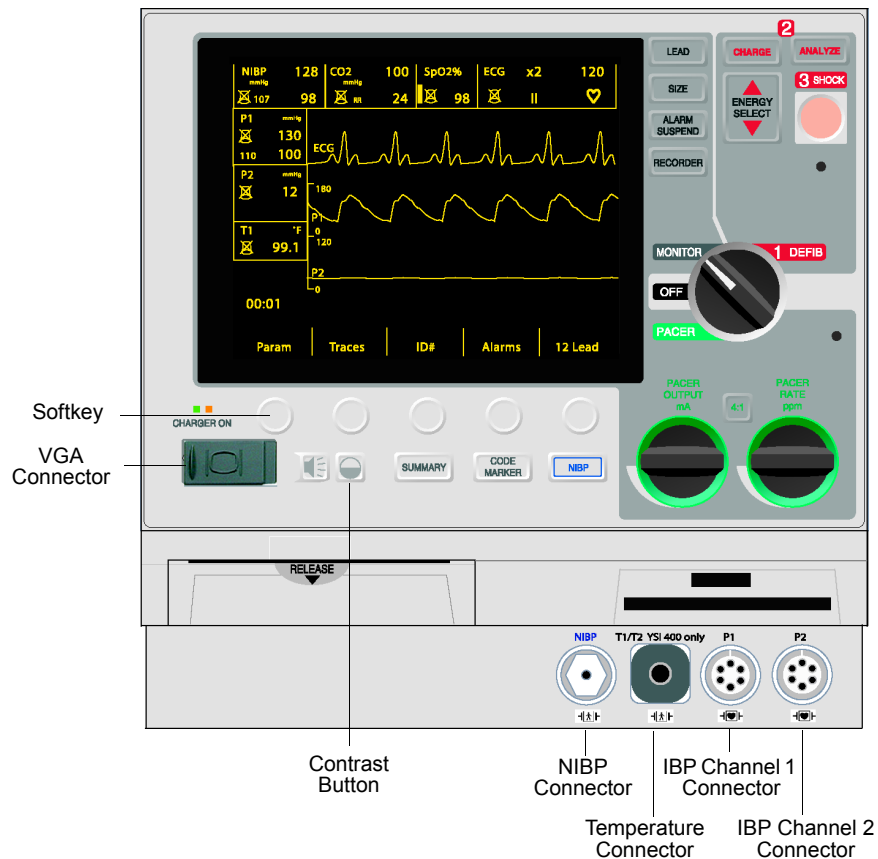
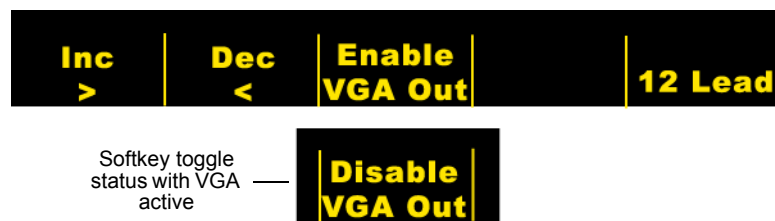

Figure 1: M Series CCT
Figure 5: Contrast menu
The M Series CCT is an M Series unit with integrated features that provide additional display capabilities. The following sections describe the additional features. A typical M Series CCT front panel is shown in Fig. 1.
An external VGA display (monitor equipped with industry standard 15-pin VGA connector) can be connected to the M Series CCT using the VGA connector( symbol) on the front panel shown in Fig. 1.
1. Press the **CONTRAST** button (see Fig. 1 on page 1), the *Contrast* menu appears (see Fig. 5):